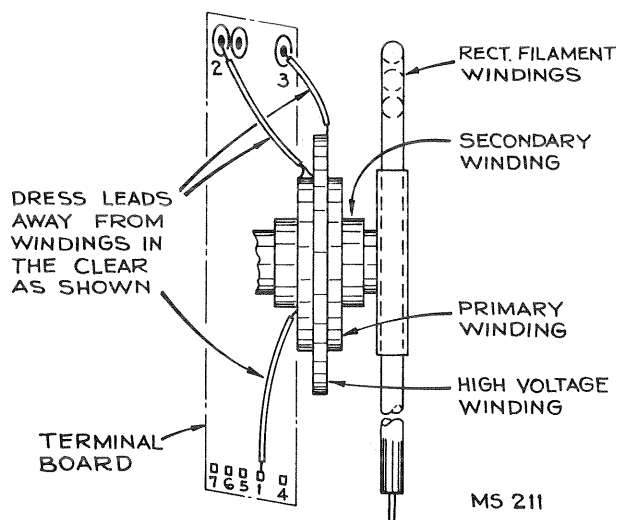

Figure 34—T302 Lead Dress
- (1) Dress spaghetti-covered leads from A and B on discriminator transformer T301 to pin 3 and 5 on V301 tube socket approximately  $\frac{3}{16}$ " above chassis.
- (2) Dress video capacitors C157, C164 and C168 up and away from chassis.
- (3) Dress video peaking coils L108, L109, L110, L111, L112, L113 and L114 up and away from chassis.
- (4) Contact between the r-f oscillator frequency adjustment screws and the oscillator coils or channel switch eyelets must be avoided.
- (5) Dress T302 winding leads as shown in Figure 34.